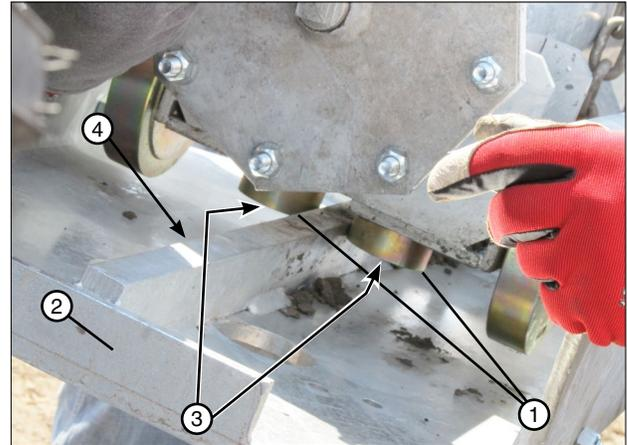

Figure 45-1 1. Guide Roller
2. From beneath the extended cradle, use a grease gun with fitting Valmont pn 0991807 to lubricate the grease fitting on each guide roller. See figure 45-1.